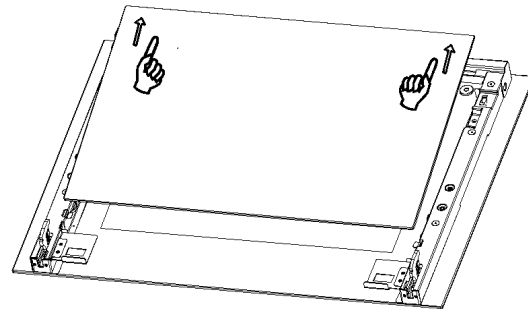

Figure 10
2. To sideling extract the middle glass and finish disassembly, as shown in figure 10